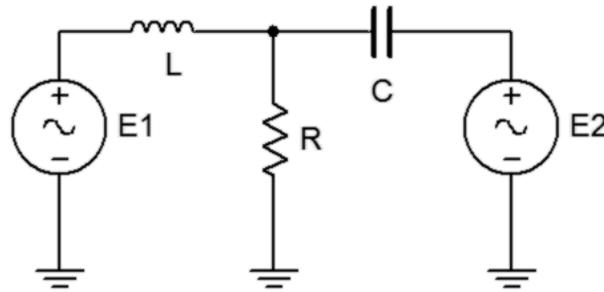

Figure 10.1
1. Typical function generators have a  $50\ \Omega$  internal impedance. These are not shown in the circuit of Figure 10.1. To test the superposition theorem, sources  $E1$  and  $E2$  will be examined separately and then together.
2. Consider the circuit of Figure 10.1 with  $C=100\ \text{nF}$ ,  $L=10\ \text{mH}$ ,  $R=1\ \text{k}\Omega$ , using only source  $E1=2\ \text{V p-p}$  at  $1\ \text{kHz}$  and with source  $E2$  replaced by its internal impedance of  $50\ \Omega$ . Using standard series-parallel techniques, calculate the voltages across  $E1$ ,  $R$ , and  $E2$ . Remember to include the  $50\ \Omega$  internal impedances in the calculations. Record the results in Table 10.1.
3. Build the circuit of Figure 10.1 using  $C=100\ \text{nF}$ ,  $L=10\ \text{mH}$ , and  $R=1\ \text{k}\Omega$ . Replace  $E2$  with a  $50\ \Omega$  resistor to represent its internal impedance. Set  $E1$  to  $2\ \text{V p-p}$  at  $1\ \text{kHz}$ , unloaded. Make sure that the *Bandwidth Limit* of the oscilloscope is engaged for both channels. This will reduce the signal noise and make for more accurate readings. Place probe one across  $E1$  and probe two across  $R$ . Measure the voltages across  $E1$  and  $R$ , and record in Table 10.1. Record a copy of the scope image. Move probe two across  $E2$  (the  $50\ \Omega$ ), measure and record this voltage in Table 10.1.
4. Consider the circuit of Figure 10.1 using only source  $E2=2\ \text{V p-p}$  at  $10\ \text{kHz}$  and with source  $E1$  replaced by its internal impedance of  $50\ \Omega$ . Using standard series-parallel techniques, calculate the
6. Consider the circuit of Figure 10.1 using both sources,  $E1=2\ \text{V p-p}$  at  $1\ \text{kHz}$  and  $E2=2\ \text{V p-p}$  at  $10\ \text{kHz}$ . Add the calculated voltages across  $E1$ ,  $R$ , and  $E2$  from Tables 10.1 and 10.2. Record the results in Table 10.3. Make a note of the expected maxima and minima of these waves and sketch how the combination should appear on the scope
8. Build the circuit of Figure 10.1 in a simulator. Using Transient Analysis, determine the voltage across the resistor and compare it to the theoretical and measured values recorded in Table 10.3. Be sure to include the  $50\ \Omega$  source resistances in the simulation.